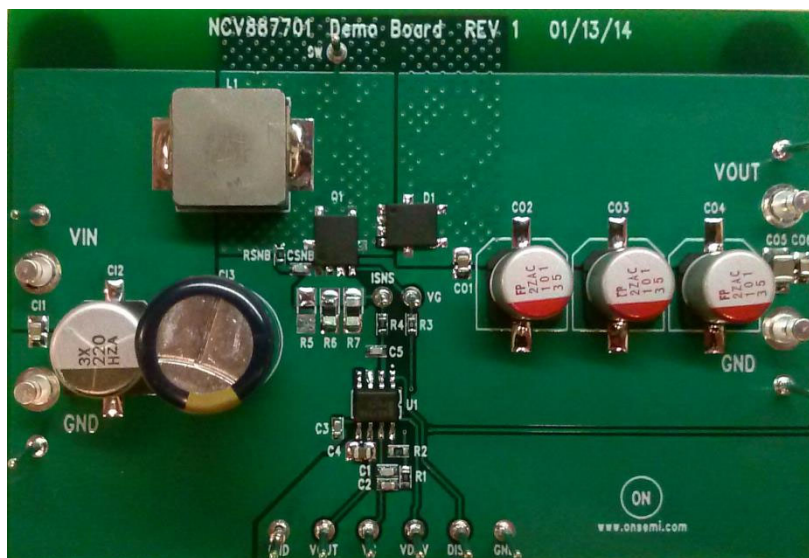

Figure 1. NCV887701 Start-Stop Evaluation Board
1. Connect a DC source voltage (15 A capable) set to a voltage of 12 – 13 V as shown in Figure 1.
2. Connect the DISB TTL control signal as shown in Figure 1. The initial DISB state should be set to logic –‘0’.